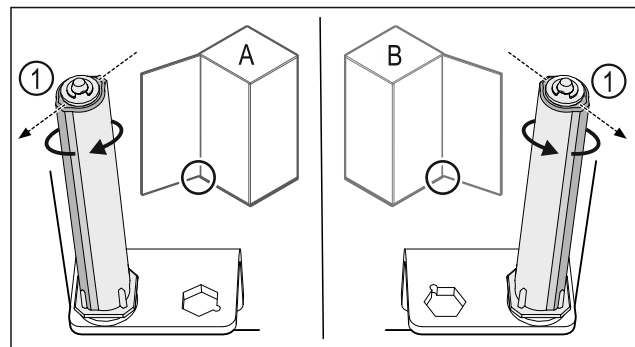

Fig. 35 Left-hinged (A) / Right-hinged (B)
- ▶ Turn the closing system against the resistance until the bar of the closing system *Fig. 35 (1)* points outwards.